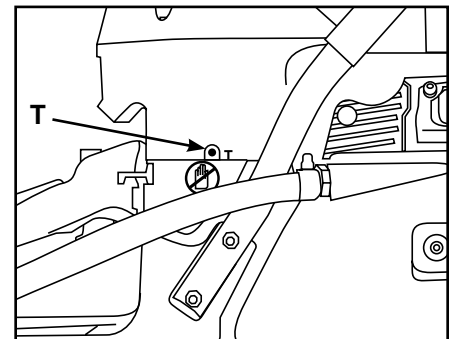

Figure 2
- T – Idle Screw** (Figure 2) is adjusted so that the engine idles smoothly but the clutch does not engage.